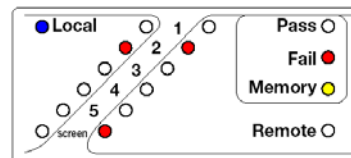

Fig 16. Short to screen.
c) A short to SCREEN, this may be indicated by one, or both the screen LED's being ON in conjunction with another pair of LED's (Fig16).